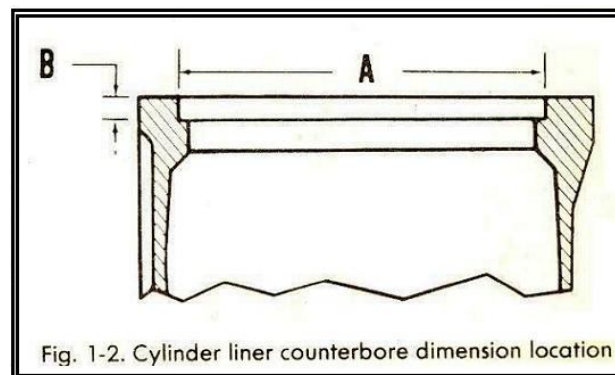

Fig. 1-2. Cylinder liner counterbore dimension location
- b. Inspect the upper liner counter bore and remove the sharp edges and dirt so that the liner will enter without distortion (A, Fig. 1-2). If the counter bore exceeds limits listed in Group 18, mark the blocks for counter bore repair. The counter bore edge must be smooth and perpendicular with the liner bore to within 0.005 inch (0.13 mm) total indicator reading. Use a straight edge to check the flatness of the top of the block. Refer to "Top Surface Refinishing".